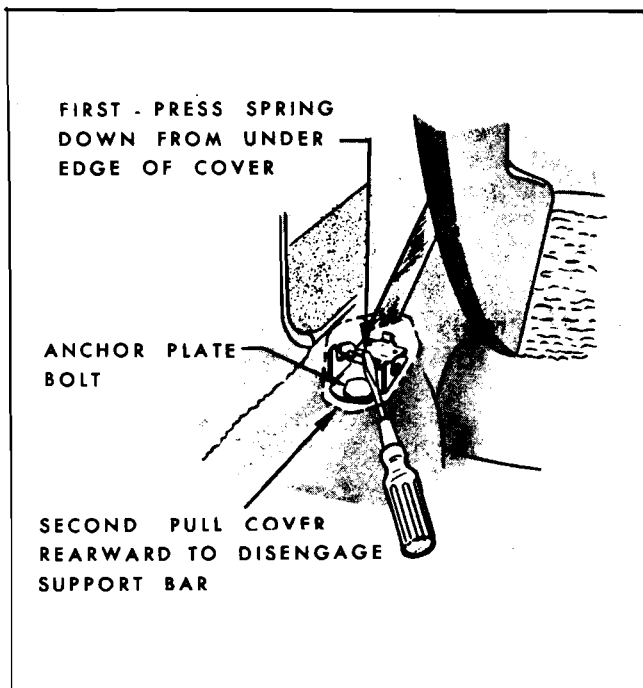

Fig. 15-96—Front Seat Belt Self-Locking Retractor - Removal
2. Insert the blade of a 2-1/2" or 4" flat bladed screw driver up under the retractor cover and engage blade of screw driver over top of retaining spring, as shown in Figure 15-96. Press retaining spring downward; then, pull retractor and cover assembly rearward and upward to disengage retractor and cover from anchor plate assembly.